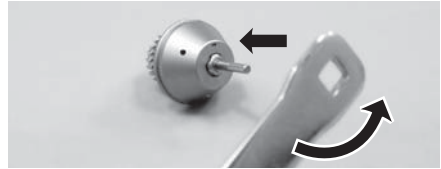

Fig. 18
- 2) Hold the rotor with two fingers as shown in Fig.18. Mount the wrench provided on the rotor nut located on the top of rotor shaft and turn counterclockwise (Either side of wrench can be used.).